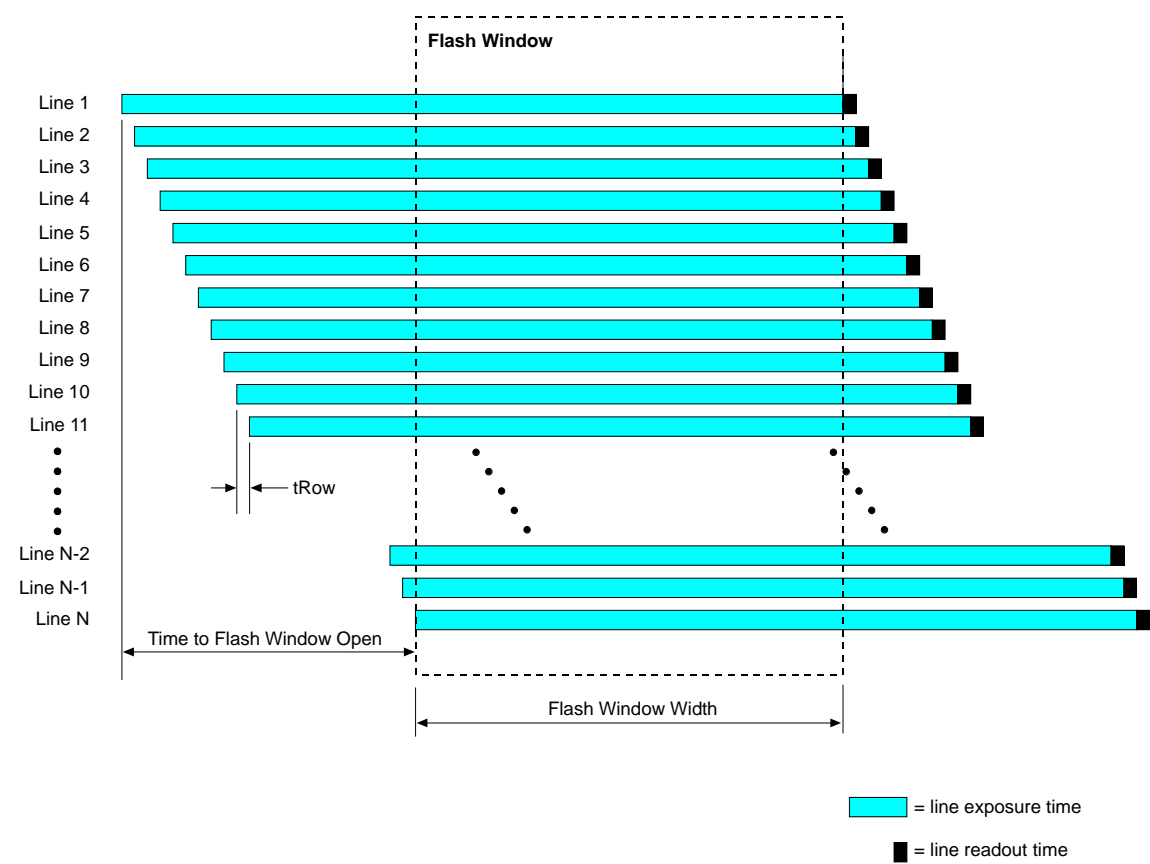
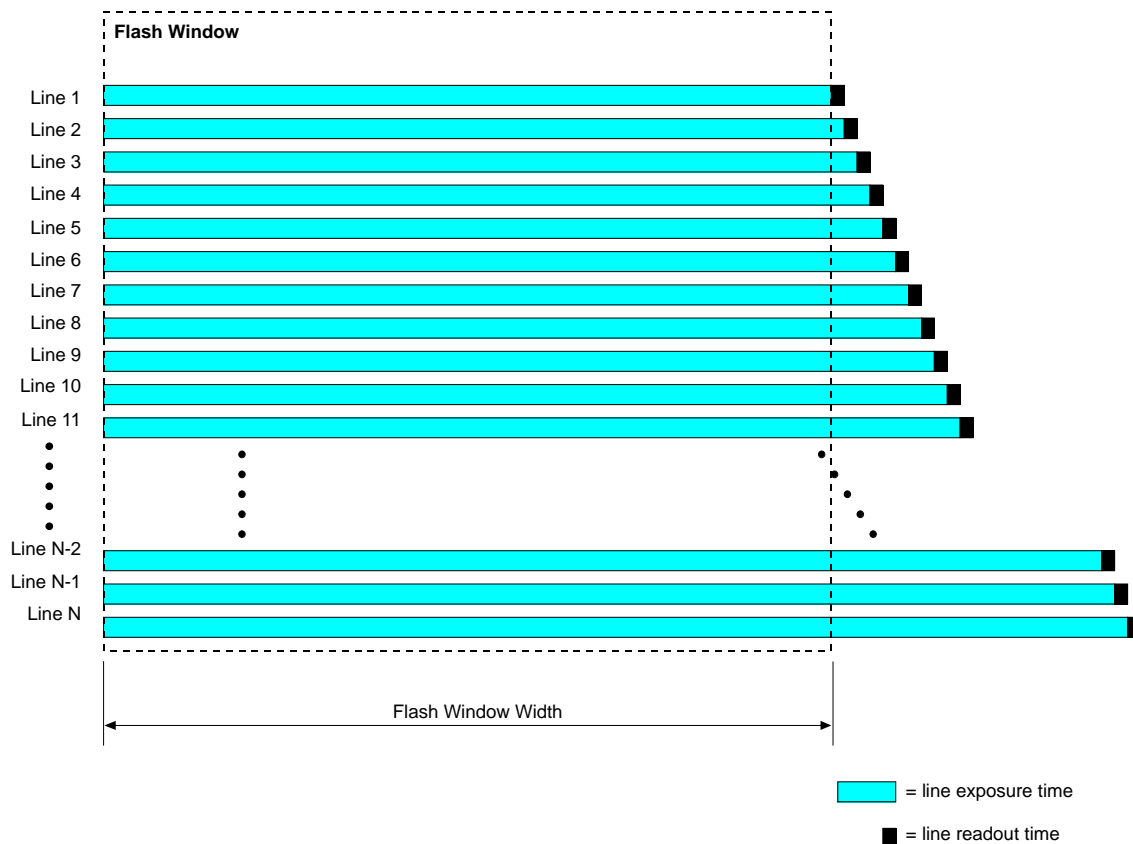

Fig. 60: Flash Window for Rolling Shutter in the ERS Mode
Fig. 61: Flash Window for Rolling Shutter in the Global Reset Release Mode
- In global reset release mode the flash window width extends over the entire exposure time of a line in the sensor. In electronic rolling shutter mode, however, the flash window width can only extend over part of exposure time of a sensor's line (compare Figure 61 and Figure 60). Therefore, at a given (high) frame rate, the global reset release mode allows for longer useful exposure times.
Figure 60 illustrates the flash window for the electronic rolling shutter mode.
Figure 61 illustrates the flash window for the global reset release mode.